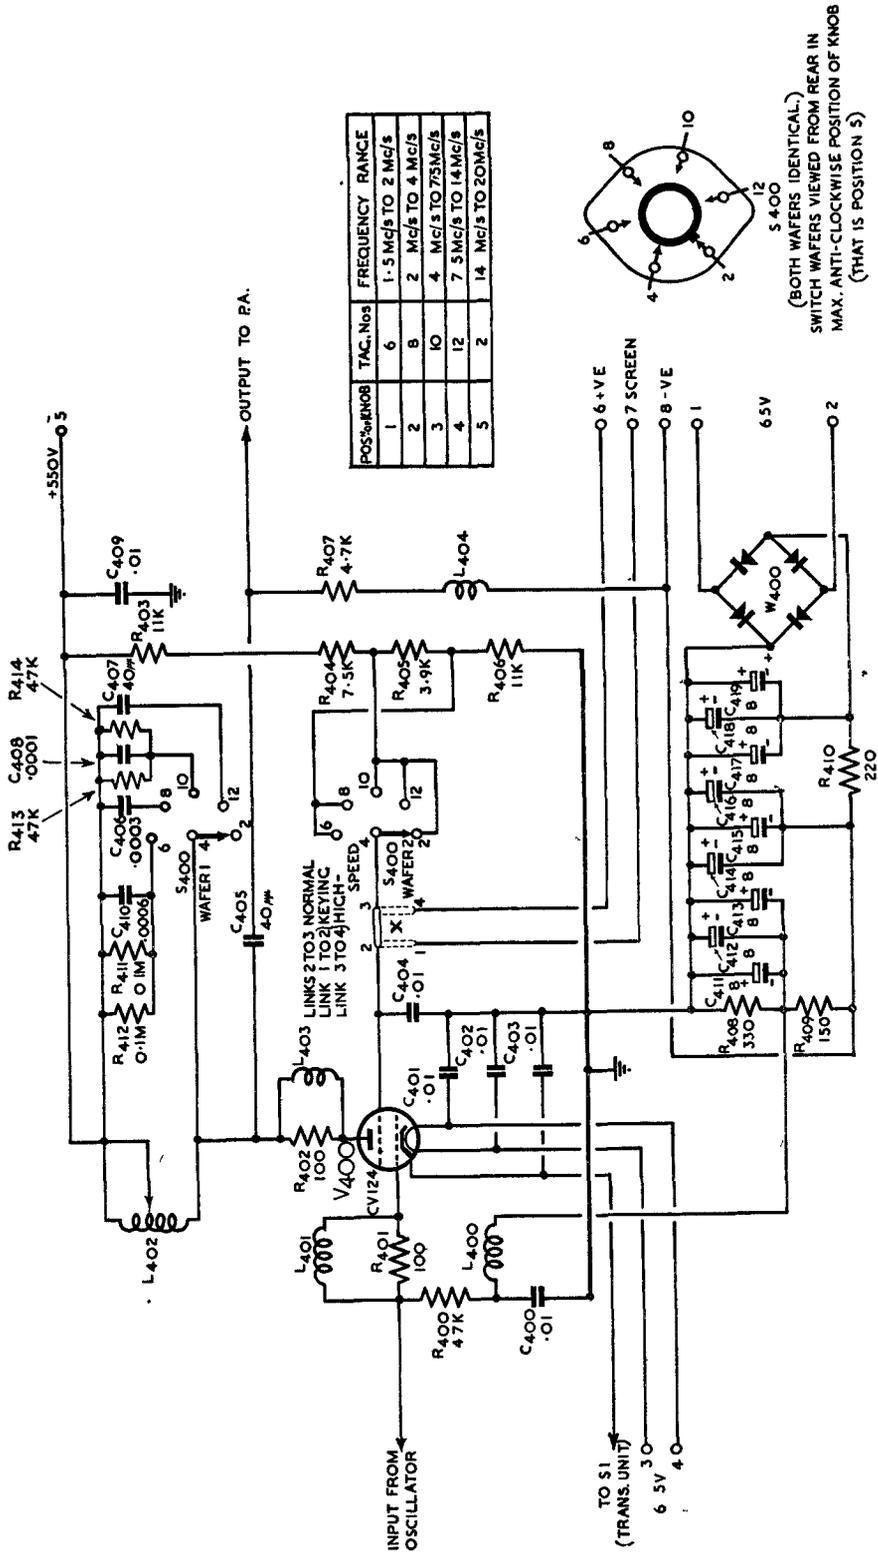
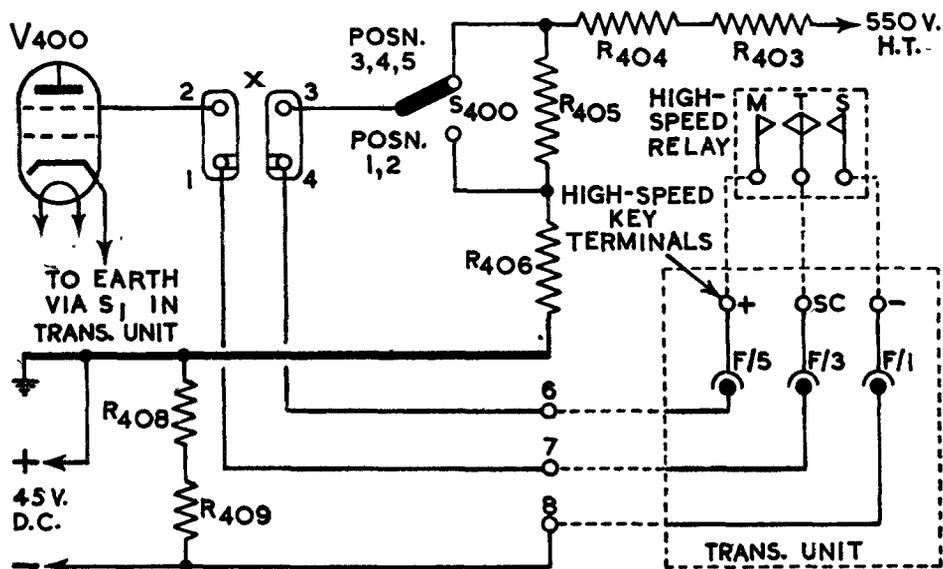

FIG. 5. CIRCUIT OF MULTIPLIER UNIT
Fig. 6. High-speed keying circuit
**26.** When high-speed keying is used with the transmitter it takes place in the multiplier stage. Links X are altered to the positions shown dotted on *fig. 5* and as shown in full on the simplified high-speed keying circuit diagram *fig. 6*. When the tongue (T) of the high-speed keying relay
**33.** Class C operation is employed both on CW and R/T, the grid of V1 and V2 being connected to the negative end of resistors R408, R409 across the metal rectifier W.400 in the multiplier unit (*fig. 5* and *para. 23*). A negative bias of approximately 48 volts is applied to the grids, via resistor R407 and choke L404 (*fig. 5*).
and 30. When the contacts are in the position shown, the cathode of the oscillator valve V201 (*fig. 2*) is returned direct to earth through contact 6 of the Jones socket B and the left-hand set of switch contacts. At the same time the cathode of the multiplier valve, V400 (*fig. 5*) is earthed through the right-hand set of switch contacts and the milliammeter M1, enabling its cathode current to be read. When the switch button is pressed, the milliammeter is transferred to the cathode of V201 and the cathode of V400 is earthed direct.
PA valves and the bias rectifier for the multiplier and PA valves (W.400 *fig. 5*). The secondaries of T3 supply the filaments of the modulator valves, the heaters of the valves in the amplifier, Type 367, the modulator bias rectifier W2 (*fig. 8*), the CW and R/T contactors CT1, CT2 and relay A/4.